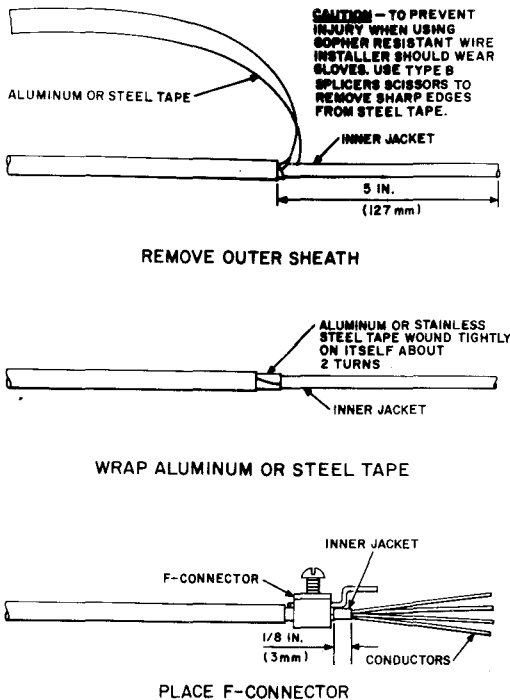

Fig. 35—Preparing 2-Pair Service Wire for Bonding of Metal Shield
6.09 See Table E for ground clamp selection. See Table F and Fig. 35, 36, and 37 for wire connectors. Connections to building steel may be made by using a B, C, or D insulator support (Fig. 38).
6.23 The shield or armor of a small diameter cable, service wire, or underground wire is connected to the ground terminal of a station protector using an F connector. The F connector has a spade tip which can be placed under the pronged washer of the protector ground terminal. The method for installing the connector on the shield of buried service wire (BSW) and connecting service wire to a protector is shown in Fig. 35 and 48.